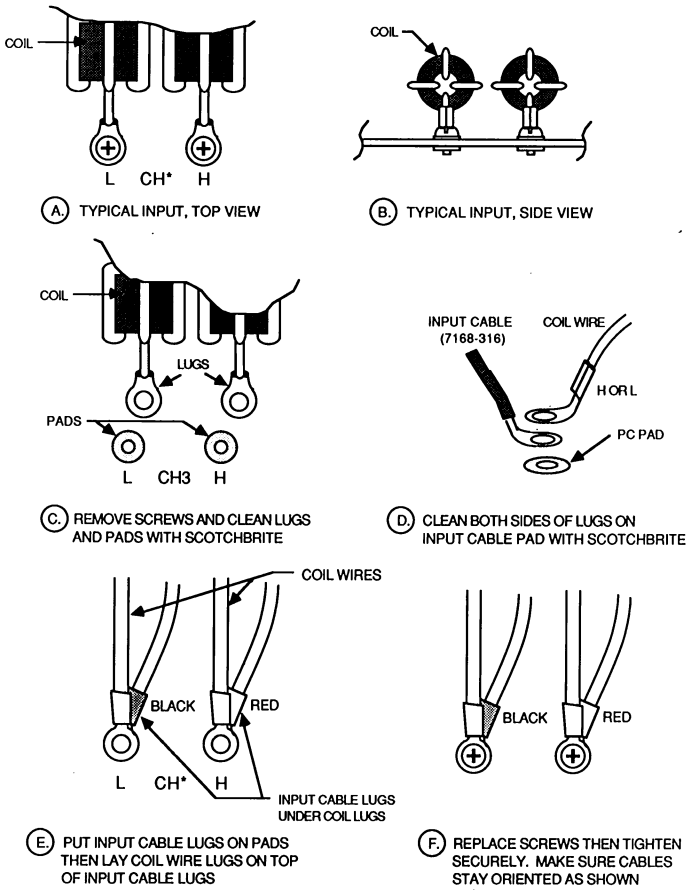

Figure 2-6. Detail of Input Connections
3. Route all connecting wires between the rubber strips of the cable clamp, and bend the lugs as shown in Figure 2-6(D).
5. Connect the input cables to the H and L terminals of the respective channels as follows (see Figure 2-6 for details).
- C. Put the input cable lugs on top of the circuit board pads with the orientation shown in Figure 2-6(E).
- D. Place the coil wire lugs on top of the input cable lugs (see Figure 2-6(E) for orientation).